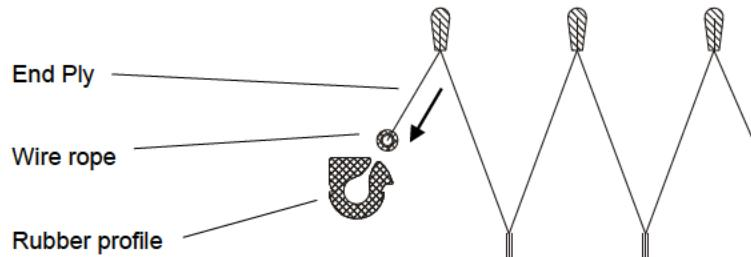

Figure 7-149: End Ply and Rubber Profile
1. Press the end ply with the integrated wire rope into the slot of the rubber profile around the contour of the suspension frame, as shown in Figure 7-149.